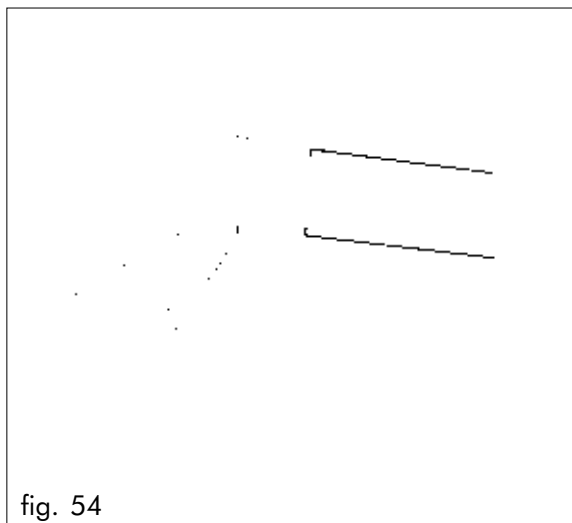

fig. 54
- Insert the labels in the order according to the selections used on the vending machine (Fig. 54).